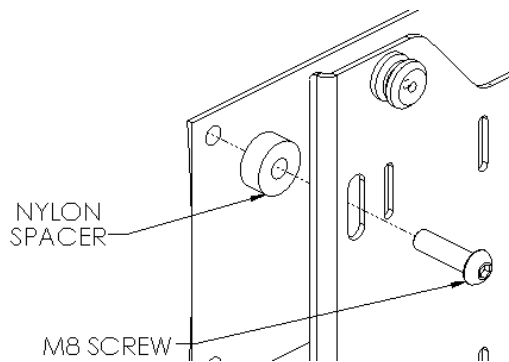
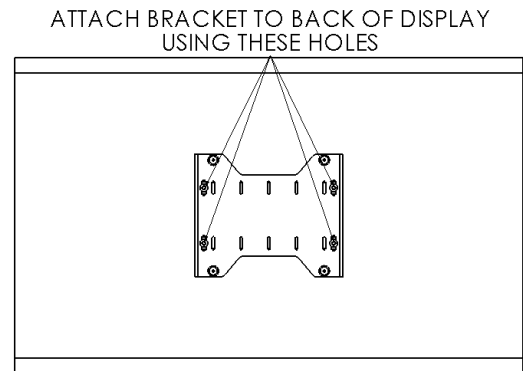

Figure 6
Figure 7
4. **Bracket Installation:** Attach bracket to back of display using the M8 screws and nylon spacers (see Figure 6 & Figure 7). The vertical slots of bracket can be used for any height adjustment that may be needed. Do not over tighten screws.